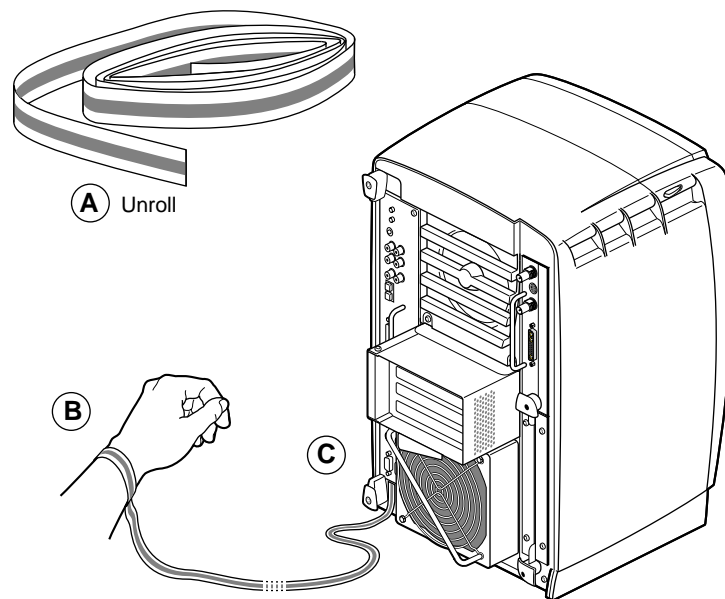

Figure 2-5 Attaching the Wrist Strap
1. Unroll the first two folds of the band (see A in Figure 2-5).
2. Wrap the exposed adhesive side firmly around your wrist (B), unroll the rest of the band, and then peel the liner from the copper foil at the opposite end.
3. Attach the copper foil to any exposed electrical ground, such as a metal part of the workstation (C).